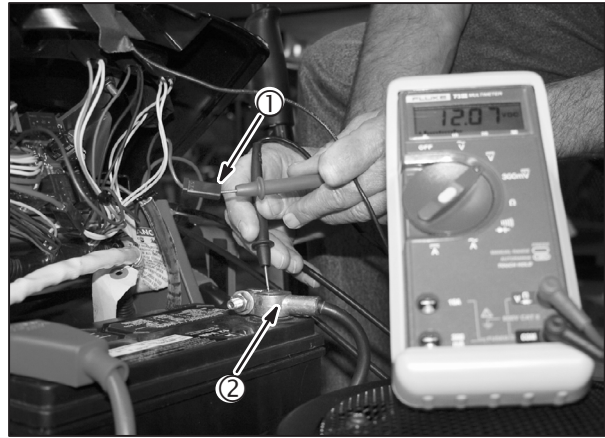

Fig. 36
- Insert RED meter test lead into the brake interlock switch wire connector (1), **Fig. 36**.
- Attach the BLACK meter test lead to the NEGATIVE battery terminal (2).